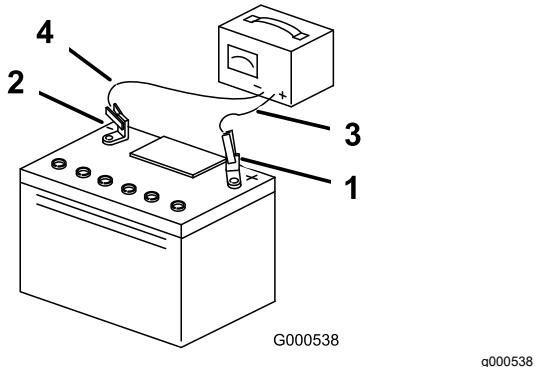

Figure 26
5. When the battery is fully charged, unplug the charger from the electrical outlet, and disconnect the charger leads from the battery posts (Figure 26).